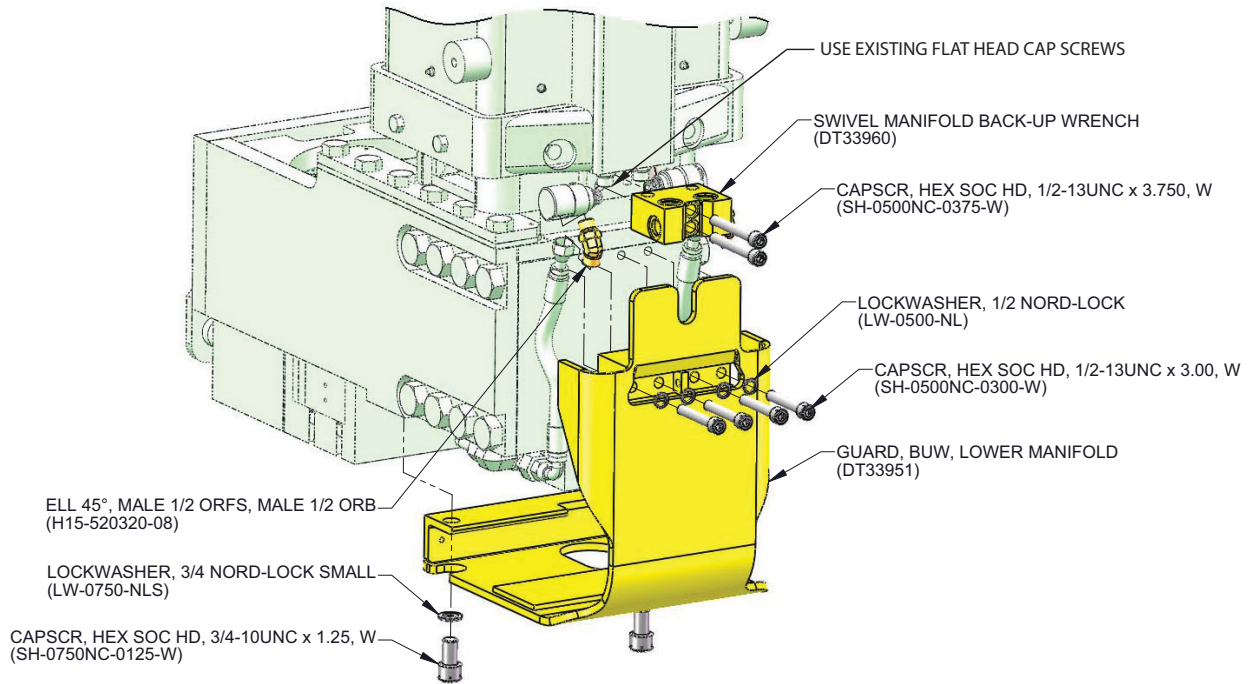

Figure 4: Assembly overview for new guard
2. Using the BOM components listed in Table 1 on page 4, reassemble the manifold guard and swivel manifold. Refer to Figure 4 above.